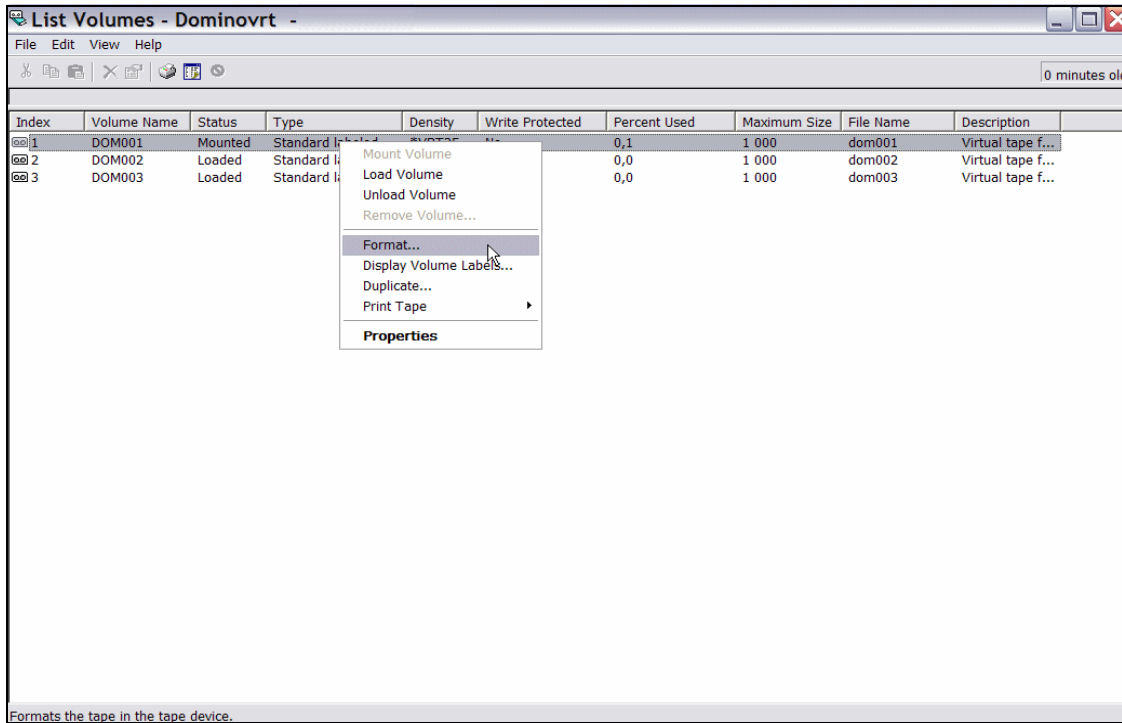

Figure 5-11 Domino with BRMS virtual tape, select volume for format
11. To format, right-click the mounted volume and select **Format**, as shown in Figure 5-11 on page 199.